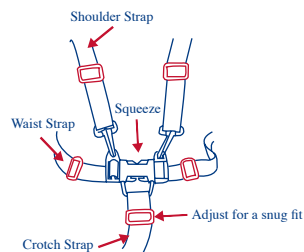

Fig. 17a
• Carefully place the child in the stroller seat and bring the safety harness around the child's waist and over the shoulders. Place the crotch strap between the child's legs. Insert the male end of each shoulder/waist belt into the buckle on the crotch strap. Tighten the harness to be snug around the child's waist and over the child's shoulders. Please see figure 17a.